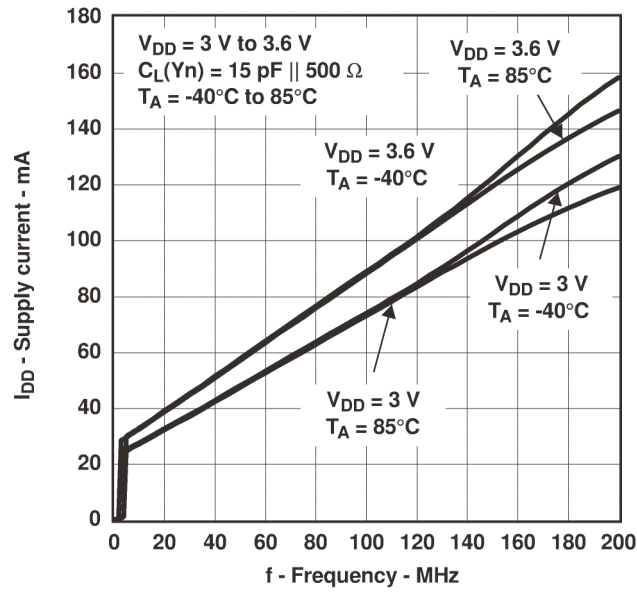

图 9-2. Supply Current vs. Frequency
(1) All typical values are at respective nominal  $V_{DD}$ .
(2) For  $I_{DD}$  over frequency see Figure 9-2.